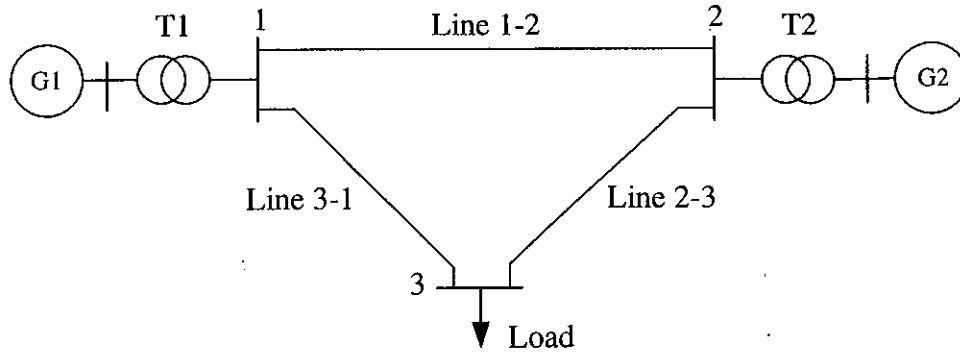

Figure Q1
b) Draw the per unit impedance diagram for the electric power system shown in Figure Q1 giving all impedances in per unit on a 100 MVA base. Choose 20 kV as the voltage base for generator G1. The reactance, three-phase power rating and line to line voltage rating of the power system elements are given below.